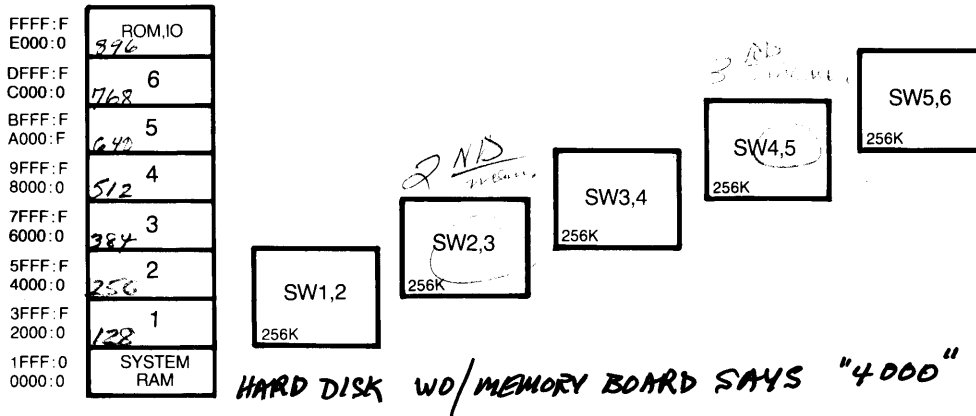
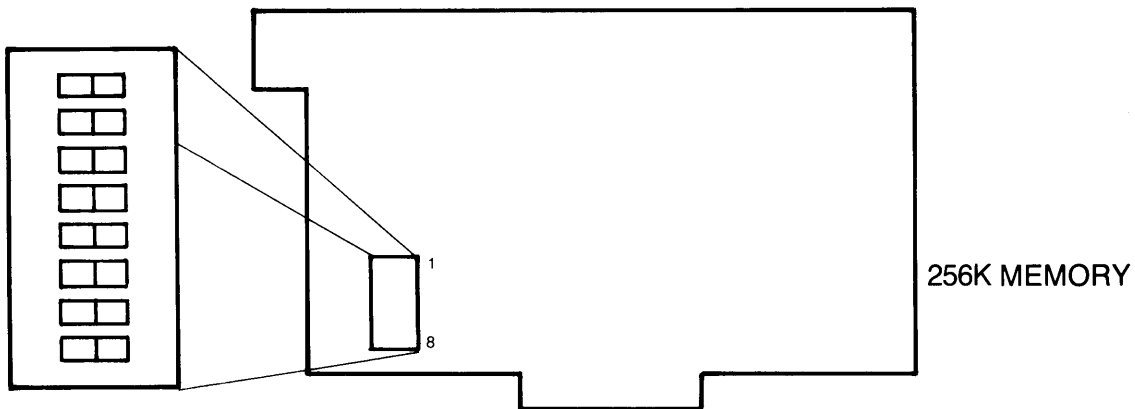

Figure 1: Memory Space Segments
Figure 2: Memory Configuration Switches
Figure 1 shows the 1 Megabyte memory space partitioned into 128K segments. Switch settings (SW) are shown for possible memory configurations. Figure 2 shows physical locations of switches on the 256K memory board.